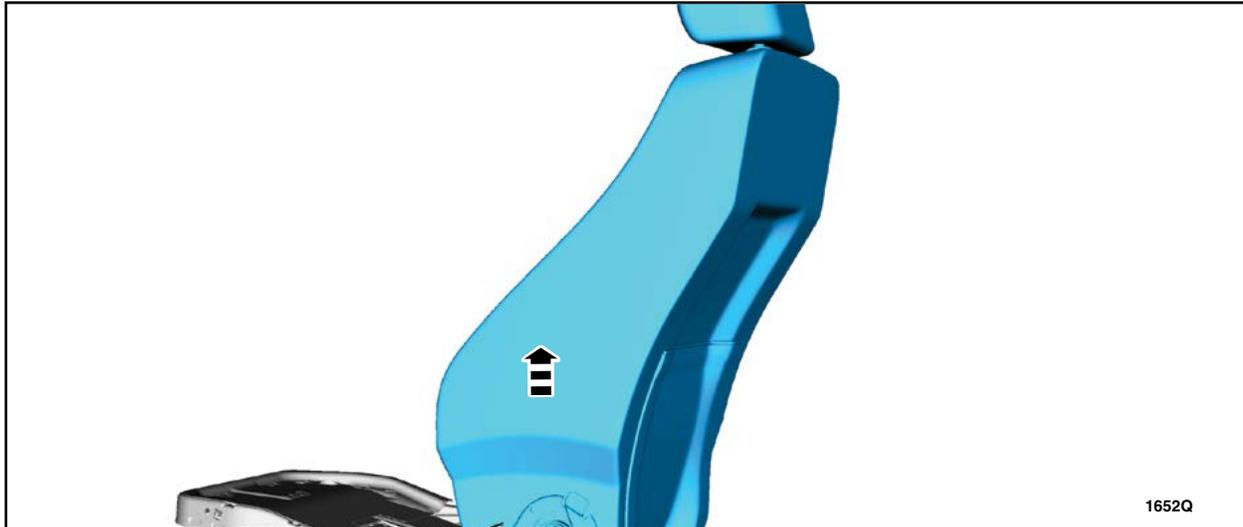

FIGURE 15
11. Remove the seat backrest cushion, cover, and the side airbag as an assembly. See Figure 15.